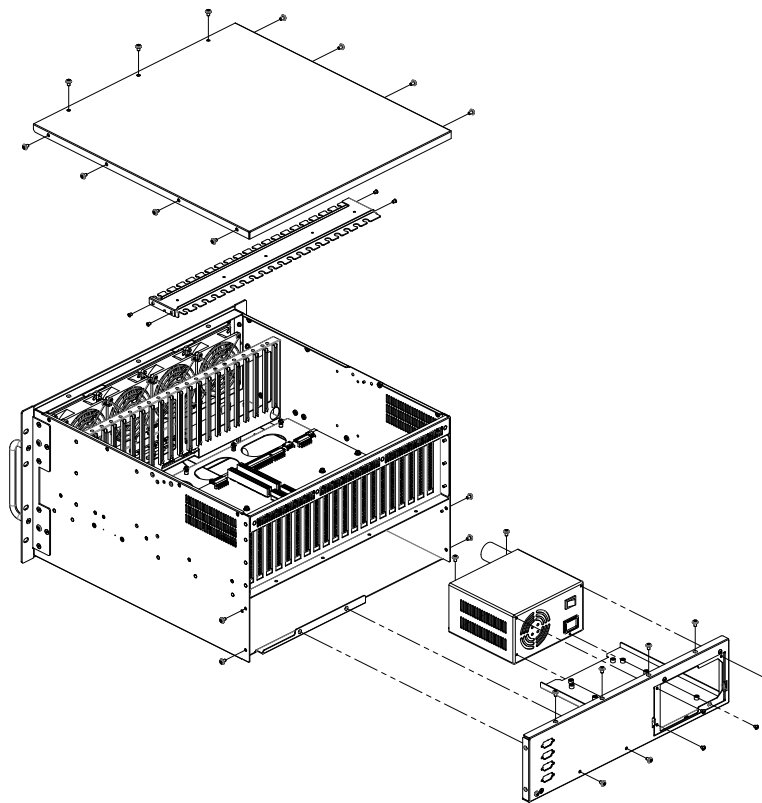

Figure 3.7 Replacing the single power supply
5. Remove the four screws that fasten the power supply module to the rear plate. Remove the rear lower plate and retrieve the power supply module (see Figure 3.7).